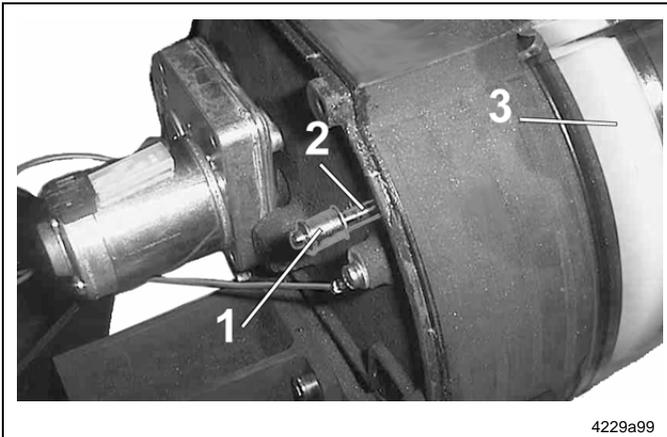

Fig. 28 Parts of the low-level indication
- The follower plate (3) (Fig. 28) of the reservoir moves the pin (pos. 2) with the solenoid (pos. 1) ahead of the sensor on the printed circuit board and initiates the low-level signal.